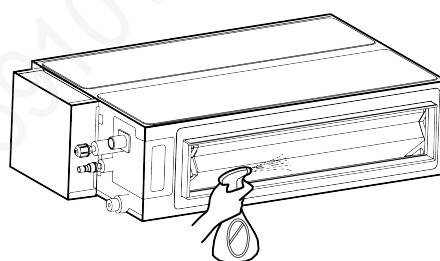

Fig 4.18
- 2) Spray 1L water on evaporator with sprayer, as shown in Fig 4.18